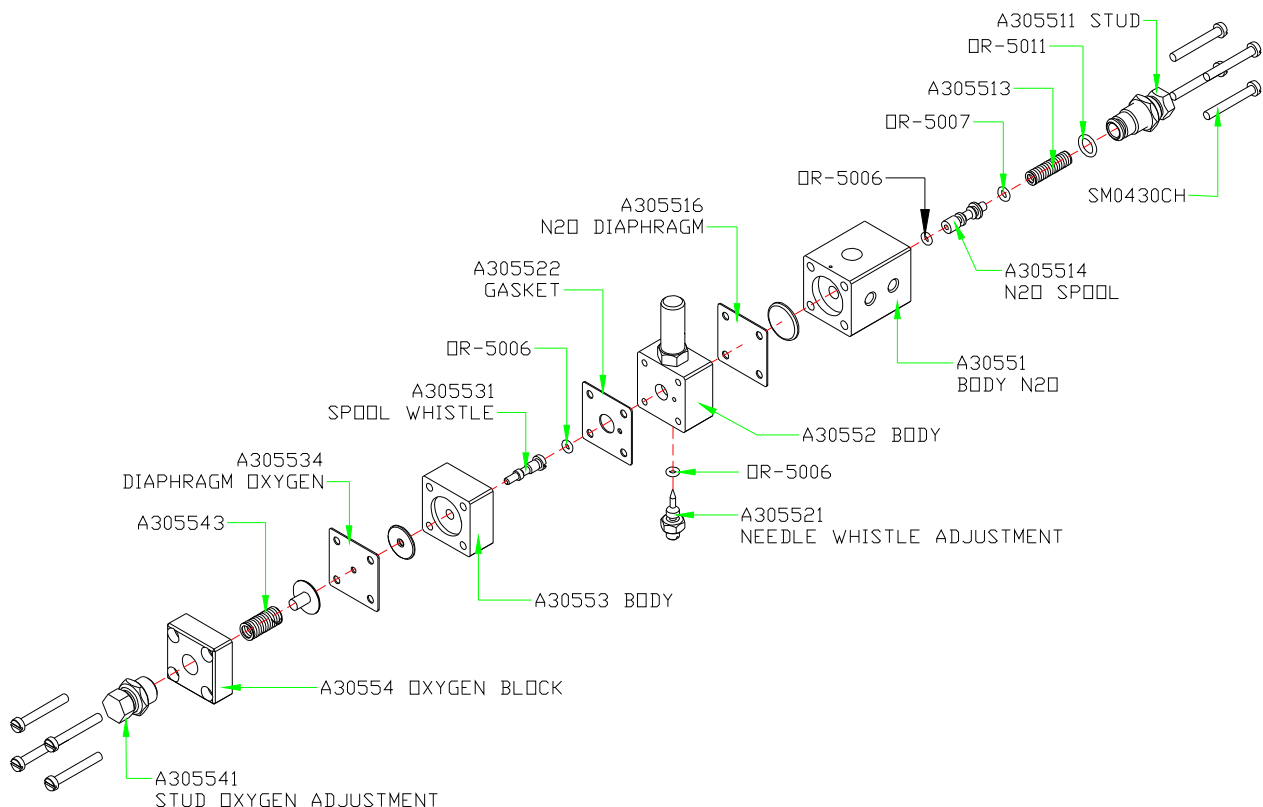

Figure 14: Exploded View A6055 Oxygen Failure Alarm
Refer to Figure 14.
- a. Unscrew the 4 screws M4 x 30 from body A30551 (see Figure 14).
- a. Unscrew the 4 screws M4 x 30 from body A30554 (see Figure 14).